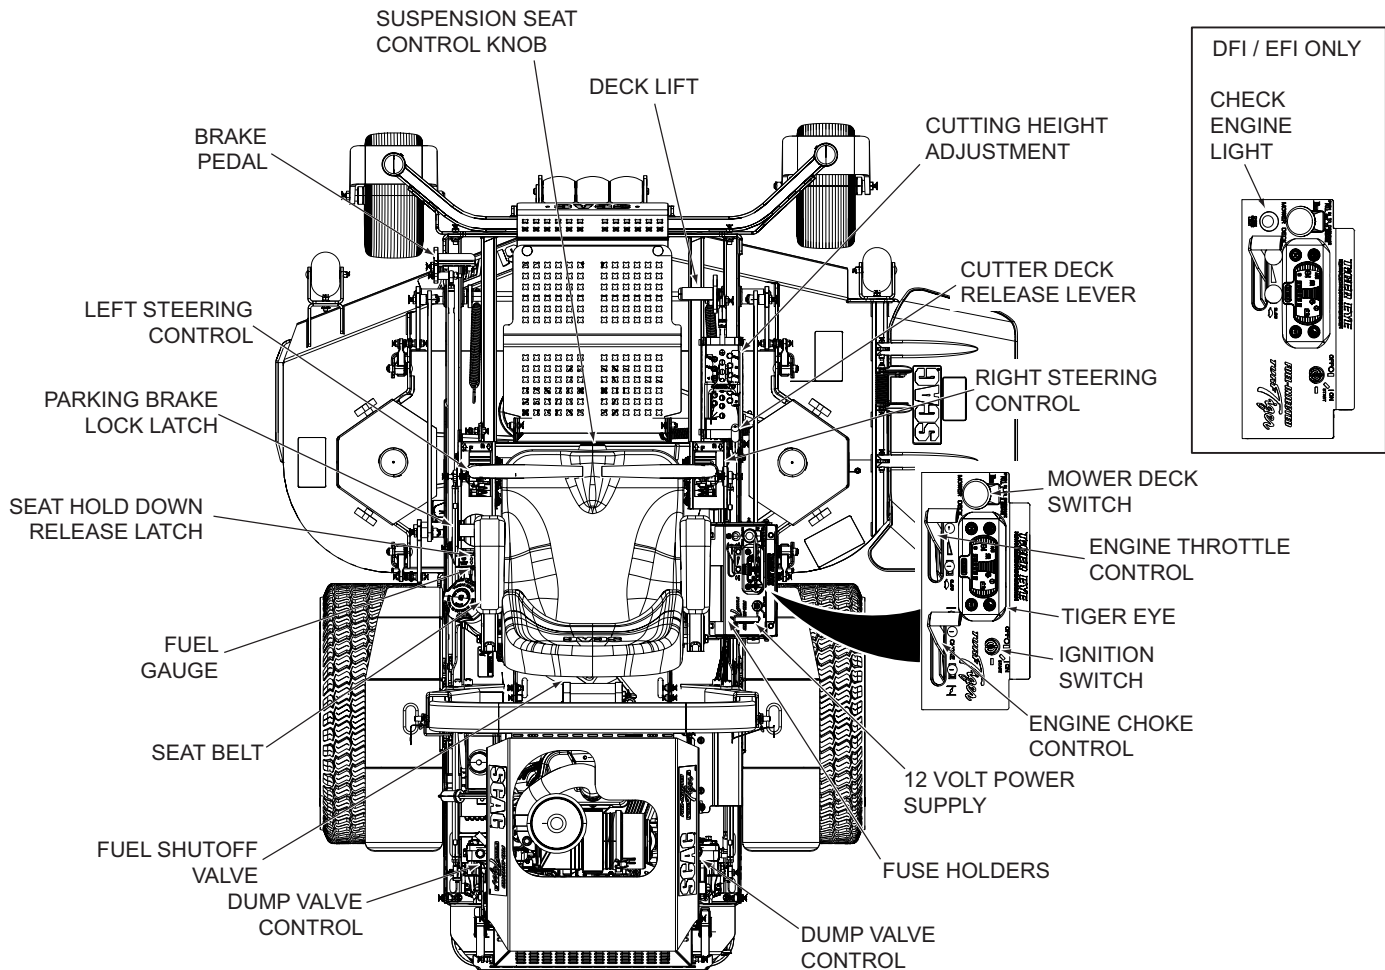
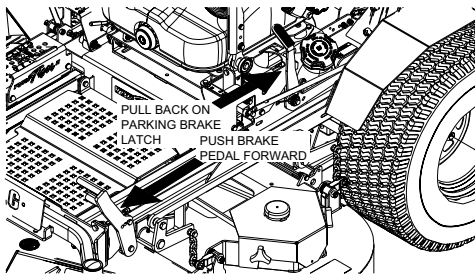
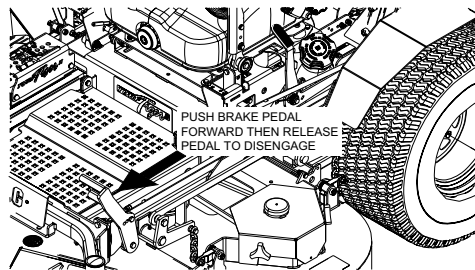
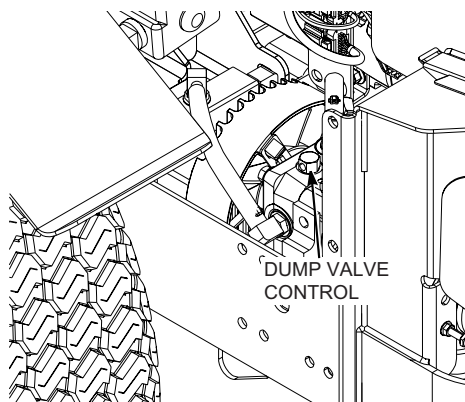

Figure 4-2. Controls and Instruments
Figure 4-3. Engaging Parking Brake
Figure 4-4. Releasing the Parking Brake
Figure 4-5. Dump Valve Control
12. **Fuse Holders (Figure 4-2).** Two 20-amp fuses and one 5-amp fuse protect the mower's electrical system. To replace fuses, pull fuse out of the socket and install a new fuse.
1. **Ignition Switch (Figure 4-2).** The ignition switch is used to start the engine and has three positions; OFF, ON, and START.
2. **Mower Deck Switch (Figure 4-2).** Use to engage and disengage the mower drive system. Pulling up on the switch will engage the deck drive. Pushing down on the switch will disengage the deck drive.
3. **Engine Choke Control, Carbureted Engine Only (Figure 4-2).** Use to start a cold engine.
4. **Engine Throttle Control (Figure 4-2).** Use to control the engine speed. Pushing the lever forward increases engine speed. Pulling the lever back decreases engine speed. Full back position is the IDLE position. Full forward is the cutting position.
5. **Left Steering Control (Figure 4-2).** Use to control the mower's left wheel when traveling forward or reverse.
6. **Right Steering Control (Figure 4-2).** Use to control the mower's right wheel when traveling forward or reverse.
7. **Brake Pedal (Figure 4-2).** Depressing the brake pedal applies the brake.
8. **Parking Brake Lock Latch (Figure 4-2).** Use to lock the parking brake in the engaged position. Fully depress the brake pedal and pull the parking brake lock latch back to lock the parking brake in the engaged position. See Figure 4-3. Fully depress the brake pedal forward to disengage the parking brake lock latch, then release the brake pedal to disengage the brake. See Figure 4-4.
9. **Fuel Tank Gauge, Gasoline & Diesel Models Only (Figure 4-2).** Indicates the amount of fuel in the fuel tank.
10. **Dump Valve Control Levers (Figure 4-2).** Located on the left and right side of the machine, used to "free-wheel" the mower. Move the levers forward until they stop allows the unit to move under hydraulic power. Move the levers back and towards the engine allows the mower to be moved by hand (free-wheeling). See Figure 4-5.
11. **Deck Lift Foot Lever (Figure 4-2).** Use to raise and lower the cutter deck. Push full forward to lock in the transport position.
12. **Cutting Height Adjustment (Figure 4-2).** Use to set the cutter deck at the desired cutting height.
13. **Deck Release Lever (Figure 4-2).** Use to lock the cutter deck in the transport position. Push the foot pedal forward and pull back on the release lever to release the cutter deck for normal mowing.
14. **Seat Suspension Control Knob (Figure 4-2).** Use to select the optimum suspension rate based on the operator.
15. **Seat Belt (Figure 4-2).** Use to secure the operator. Seat belt must be worn at all times when the ROPS is in the upright and locked position.
16. **Seat Hold Down Release Latch (Figure 4-2).** Located behind the seat. Use to secure the seat in the operator's position. Release the latch to gain access under the seat.
17. **Fuel Shutoff Valve Gasoline & Diesel Models (Figure 4-2).** Located under the seat on top of the fuel tank. Use to shut off fuel supply to the engine. Rotate the valve counter clockwise to supply fuel from the tank to the engine. Rotate the valve clockwise to shut off the fuel supply to the engine. **LP Models,** Valve is located on the LP tank.
18. **12 Volt Power Supply (Figure 4-2).** Located on the side of the control panel. Fused 12 volt DC power supply used to power accessories rated at 5 amps or less.